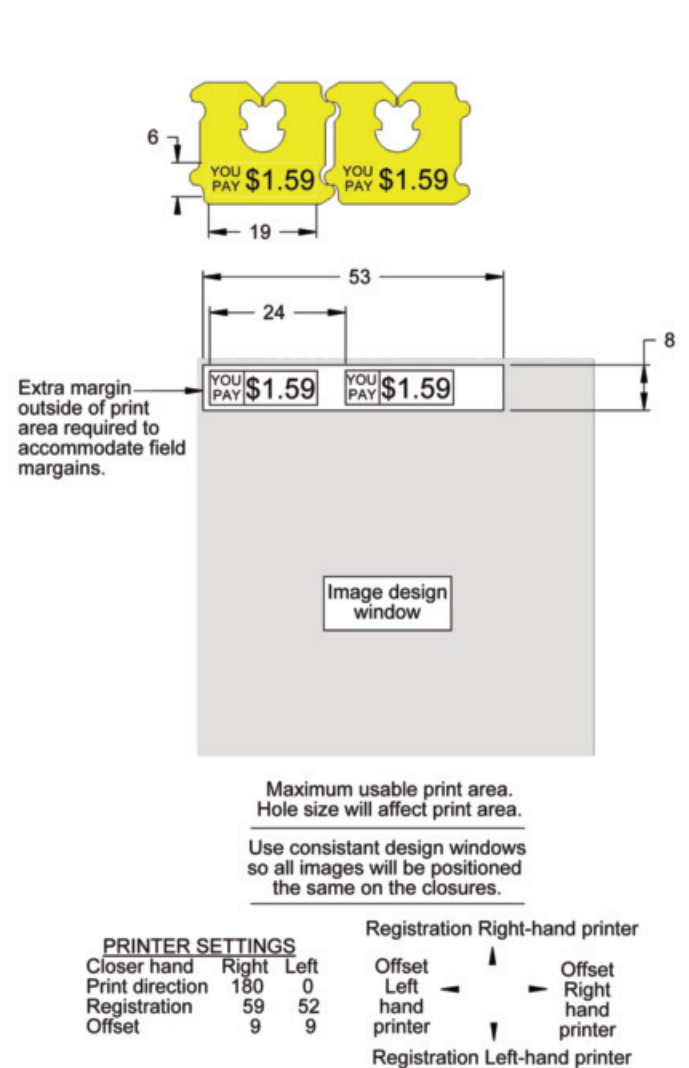

Figure 3.6
6. The printer locates the image based on the first dot of printed material. The printer registration must be adjusted each time a print image is changed between the layout shown in Figure 3.5 and the layout shown in Figure 3.6. To reduce the printer registration adjustments, insert a pe-